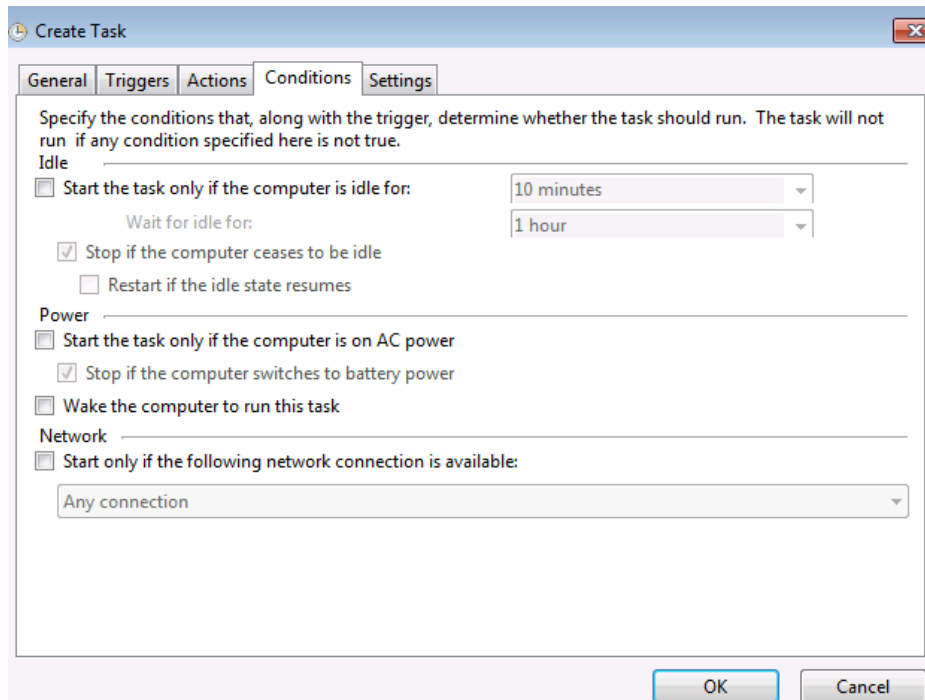

Fig. C.32: New Conditions configuration
STEP 6 – In *Create Task* window please select *Tab Conditions* and disable all the options (Fig. C.32).